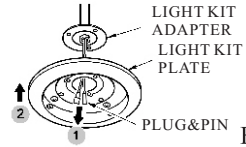

FIG.12
2. Lift the light kit plate up to light kit adapter and pull the light wire through the hole of light kit adapter. (see Fig.12)